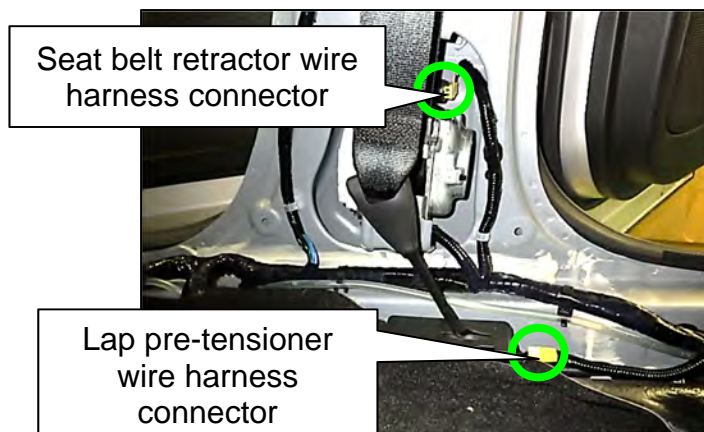

Figure 12
9. Disconnect the lap belt pre-tensioner and seat belt retractor wire harness connectors (Figure 12).